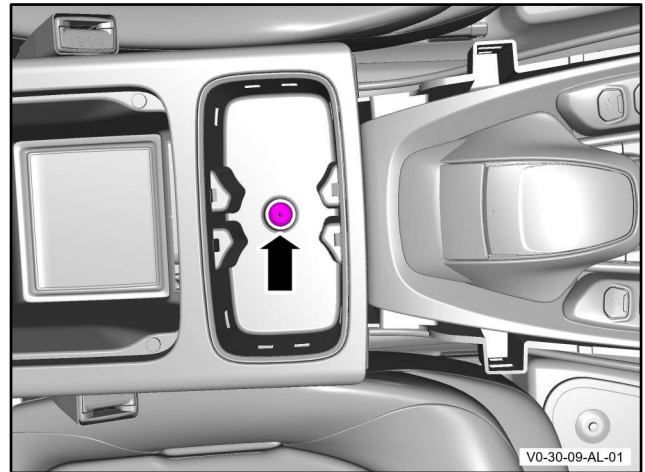

Figure 36
27. Install the screw that attaches the cup holder assembly to the centre console assembly (refer to Figure 36).